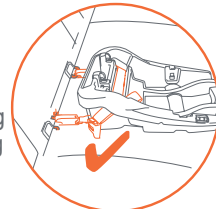

Fig. 52-2
6. Proper installation of the Base requires that the **LATCH** webbing be very tight. To tighten the webbing, push down hard with your knee or hand on the Base while pulling upward on each webbing end. The webbing will automatically lock in place. **Check that there is no slack in the webbing on both sides of the base and that the base is tightly installed (Fig. 52-2 and 52-4).**